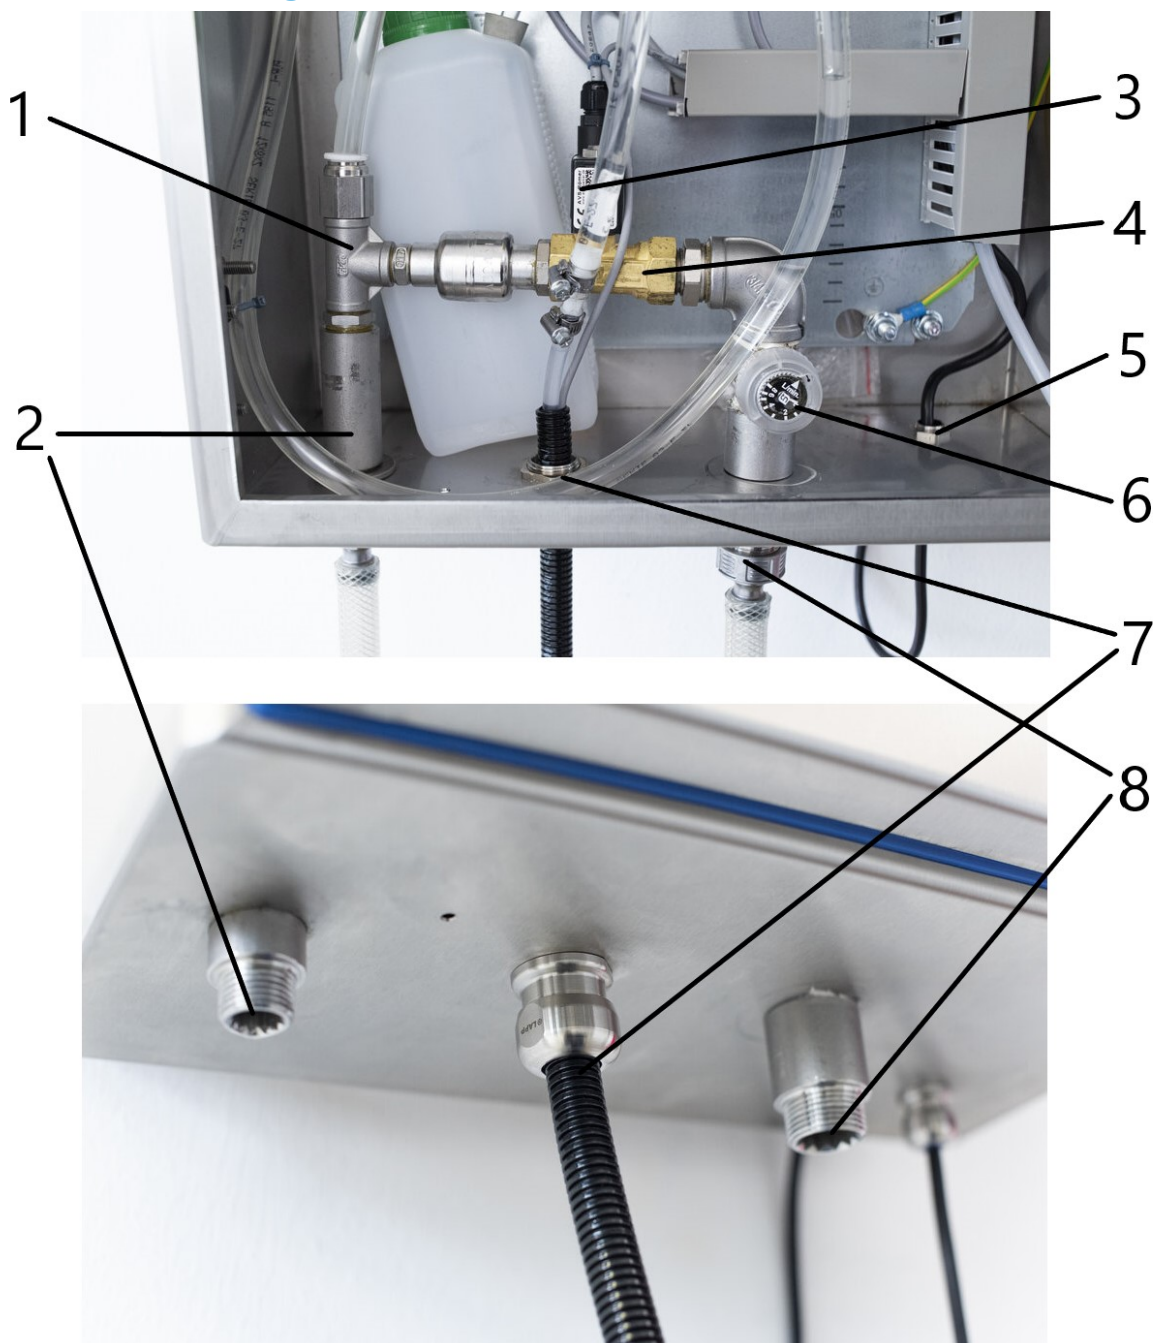

Fig. 4: Commissioning
1. Remove the cover from the flow regulator, see Fig. 4, page 14, and replace it upside down